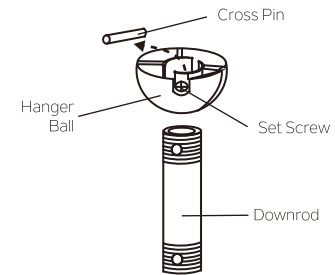

Fig. 7
**Step 5.** Remove the hanger ball from the downrod assembly by loosening the set screw, unscrewing and removing the cross pin and unscrewing the ball off of the rod. (Fig. 7)